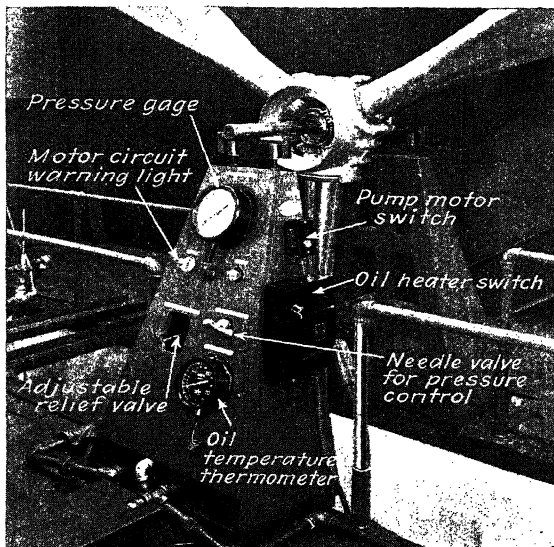

FIG. 46.—Balancing stand for propellers and test-control panel.
**Dome Assembly Balance.**—1. Install the dome assembly on the bench balancing fixture (Fig. 46).